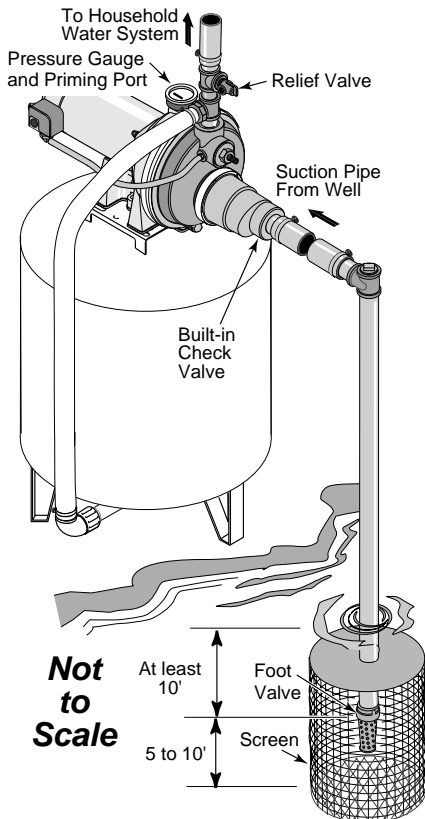

Figure 9: Surface Water Installation
4. Assemble a foot valve and suction pipe (see Figure 9). Make sure that the foot valve works freely. Use Teflon™ tape or a Teflon™-based pipe joint compound on threaded pipe joints. Protect the foot valve assembly from fish, trash, etc, by installing a screen around it (see Figure 9).
6. Install a priming tee, priming plug, and suction pipe to the pump (see Figure 9). Support the pipe so that there are no dips or sags in the pipe, so it doesn't strain the pump body, and so that it slopes slightly upward from the well to the pump (high spots can cause air pockets which can air lock the pump). Seal the suction pipe joints with Teflon™ tape or a Teflon™ based pipe joint compound. Joints must be air- and water-tight. If the suction pipe can suck air, the pump cannot pull water from the well.